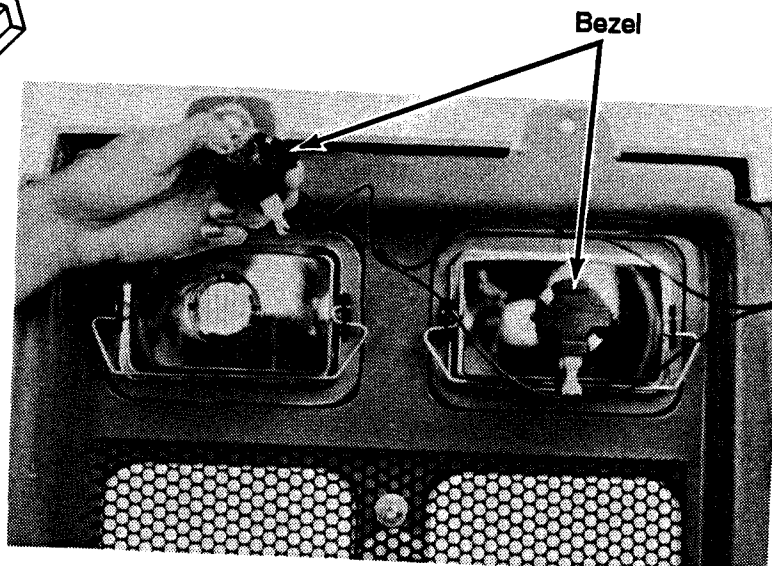

Figure 13. Headlights.
2. Rotate the black bezel dial (Refer to Figure 13) 1/4 turn counterclockwise. Pull unit out of opening. Pull bulb out. Replace bulb with one of the same type and wattage. Insert unit in opening. Rotate dial 1/4 turn clockwise to fasten.